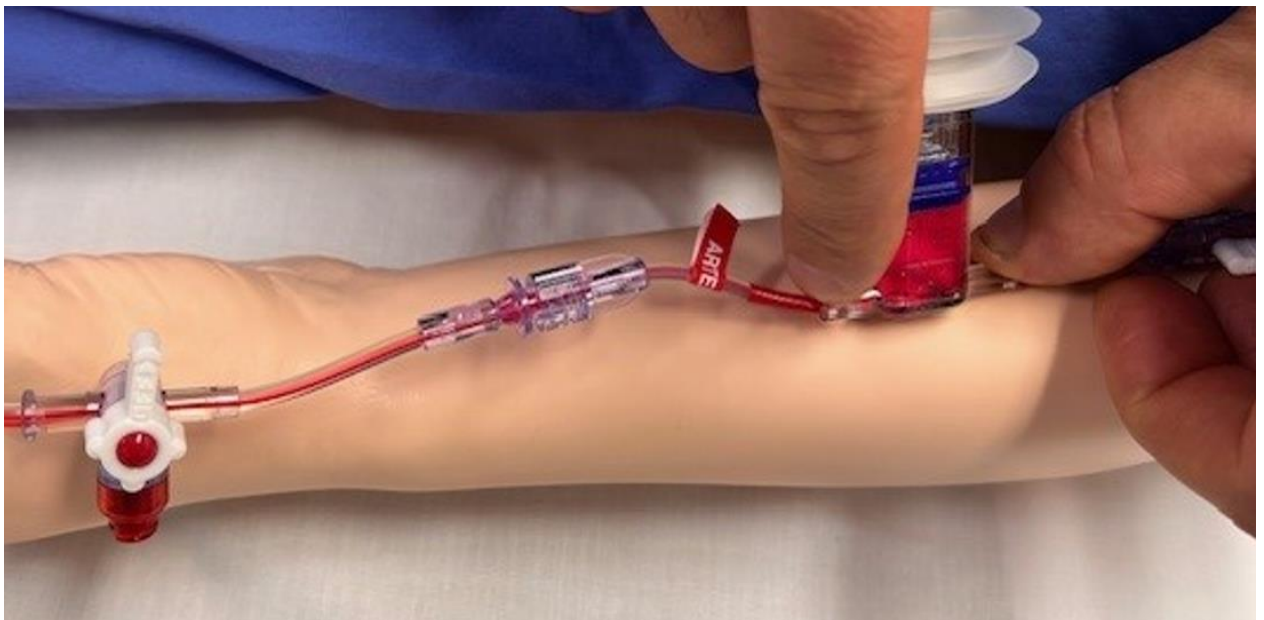

Figure 7.
2. Firmly squeeze the flexures and slowly (over 3-5 seconds), pull up the reservoir plunger until the reservoir has reached its **3ml** volume capacity (see Figure 7 below.). Make sure there is no saline present in the blood sample.